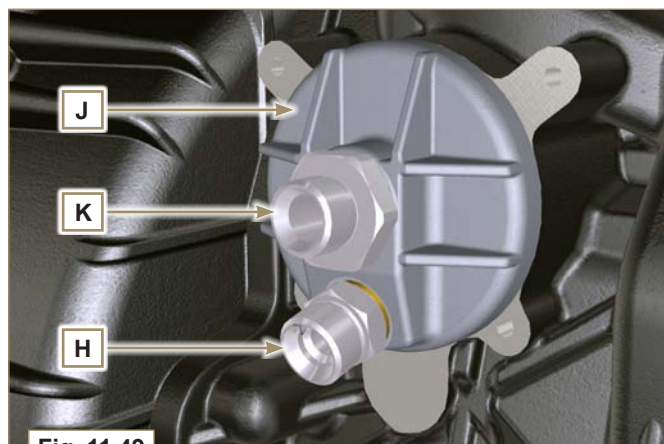
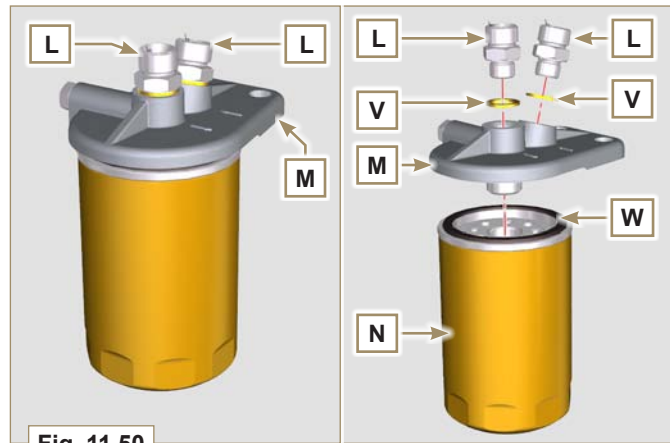

Fig. 11.49
Fig. 11.50
- For the disassembly of the pipes **B** and **C**, lock with a tool the fittings **K**, **H** (**Fig. 11.49**) and **L** (**Fig. 11.50**) in order to prevent their lose together with the nuts **A**, with the consequent of oil leakage.